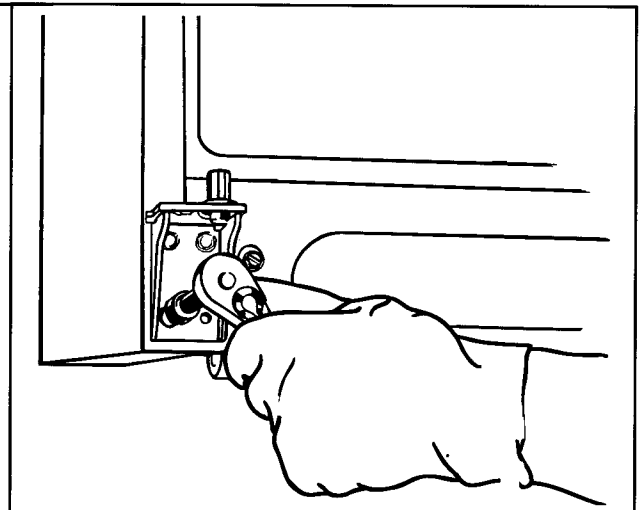

Figure 38
- d. Tighten original 3/8" hex head screws with ratchet. See Figure 38.